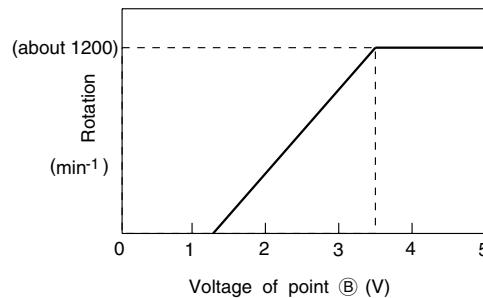

Fig. 6-3
- This pulse changes to analog voltage by R751 and C751 and it is applied to the fan motor as instruction voltage number of rotations. The relationship between the voltage of point B and number of rotations becomes as shown in Fig.6-3. (The gap may arise depending on the condition of unit.)
- The feedback pulse of number of rotation is outputted from the fan motor and input to micro computer pin ⑭. The frequency of this pulse is 12/60 of the number of rotations. (Ex: $1000\text{min}^{-1} \times 12/60 = 200\text{Hz}$) The micro computer observes this frequency and to make it as the instruction number of rotation all the time, adjusts the output pulse width of pin ⑩.